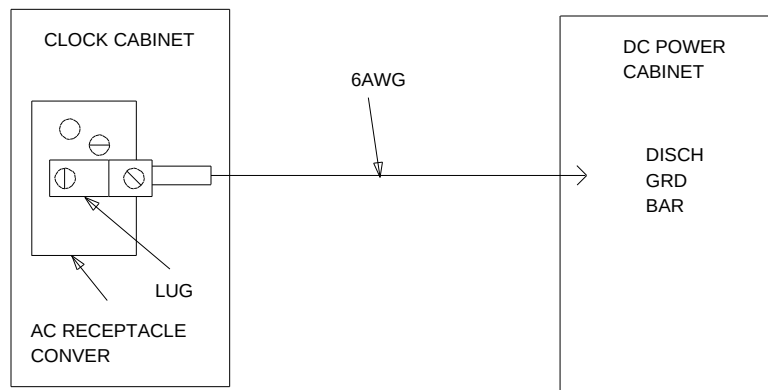

Figure 4-25. Clock Cabinet DC Grounding
1. Measure and cut a piece of 6 AWG wire long enough to reach from DC Power Cabinet to the clock cabinet (Figure 4-25).
3. Attach the lug to the receptacle cover on the clock cabinet. Ensure the lug and the cabinet ground wire are connected to separate screws on the receptacle cover. See Figure 4-25.